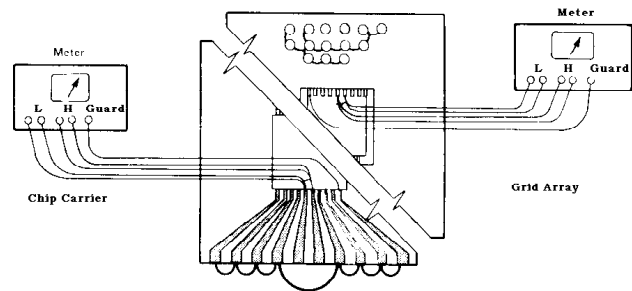

Figure 1
3 Procedure: Lead-to-Lead Capacitance(See Figure 1)
3.2 Connect together all the pins in close proximity to those being measured, for multi-layer ceramic package pins should be chosen to connect all traces adjacent to traces being measured. Example: Eight surrounding pins are connected for the 68 lead pin grid; twelve surrounding pins are connected together for the 124 pin grid; eight surrounding pins are connected together for all flat packs (see Figure 1). If there are power planes and/or large power buses in the package, their pins must be connected together with the eight or 12 surrounding pins discussed above.